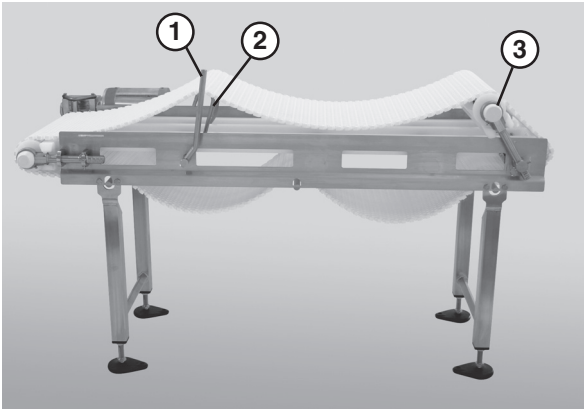

Figure 55
2. Use the lifter handle (**Figure 55, item 1**) to raise the lifters (**Figure 55, item 2**) and raise the tip up tail (**Figure 55, item 3**).